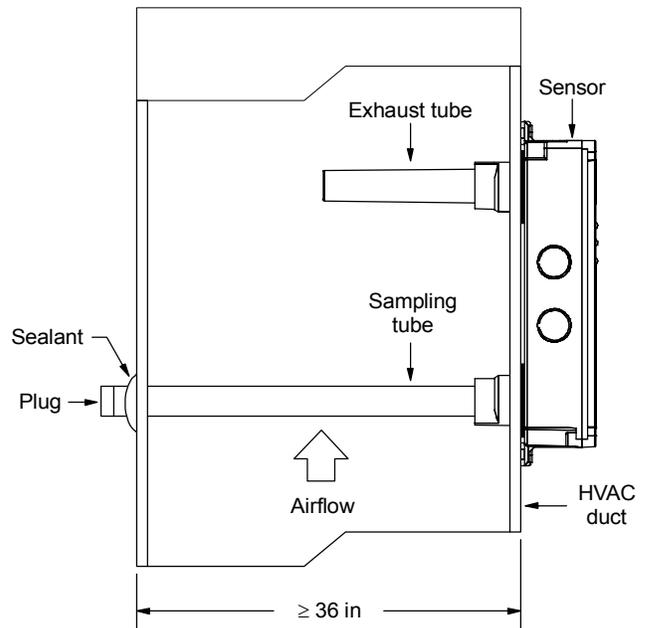

Figure 3: Installation with sampling tubes longer than the width of the duct
**Note:** For duct widths greater than 36 inches, use a sampling tube that is longer than the width of the duct (see Figure 3).
If the sampling tube is longer than the width of the duct, drill a 3/4-inch hole on the opposite side of the duct. Extend the sampling tube through the hole as shown in Figure 3 and seal all openings outside the duct with an approved sealant.